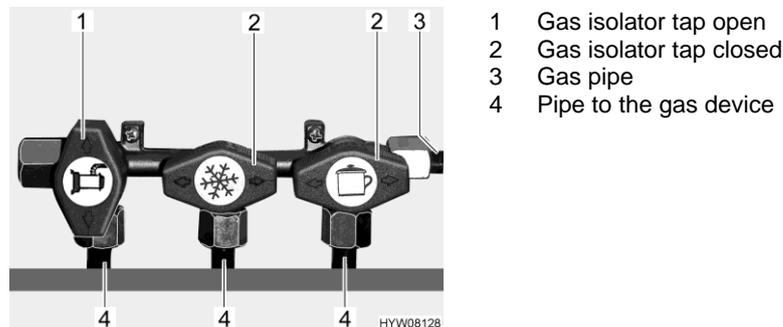

Fig. 82 Gas isolator taps position (example)
- Position the gas isolator tap of the corresponding gas device parallel (Fig. 82,1) to the pipe (Fig. 82,4) leading to the gas device.
- Position the gas isolator tap of the corresponding gas device transverse (Fig. 82,2) to the pipe (Fig. 82,4) leading to the gas device.